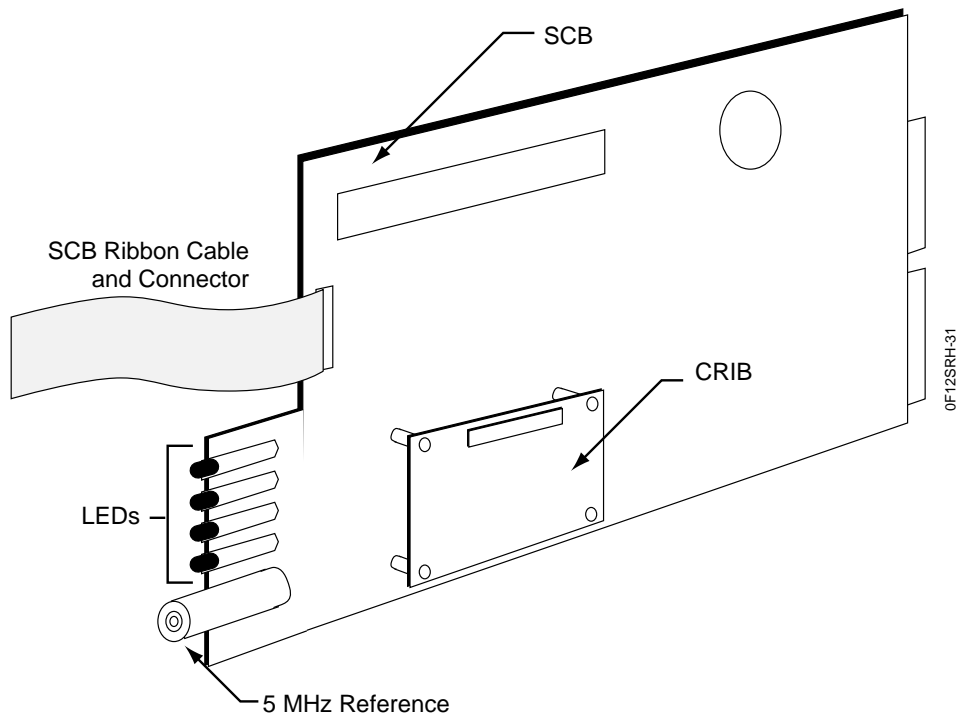

Figure D-7: CRIB Mounted on the SCB
9. Seat the CRIB fully on the standoffs (see Figure D-7).